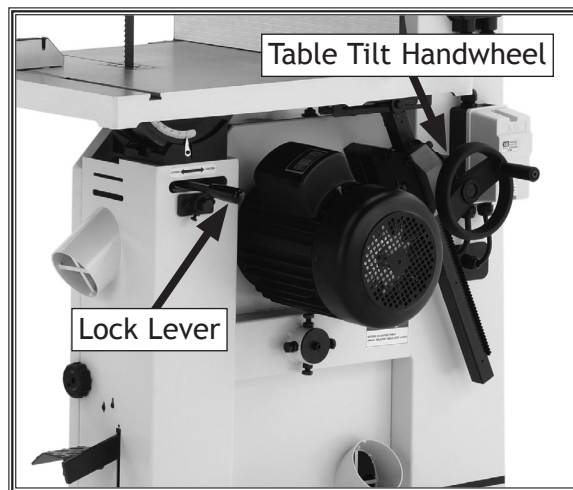

Figure 54. Table tilt controls.
2. Loosen the table tilt lock lever shown in **Figure 54**.
3. To tilt the table to the right, turn the table tilt handwheel clockwise (**Figure 54**).